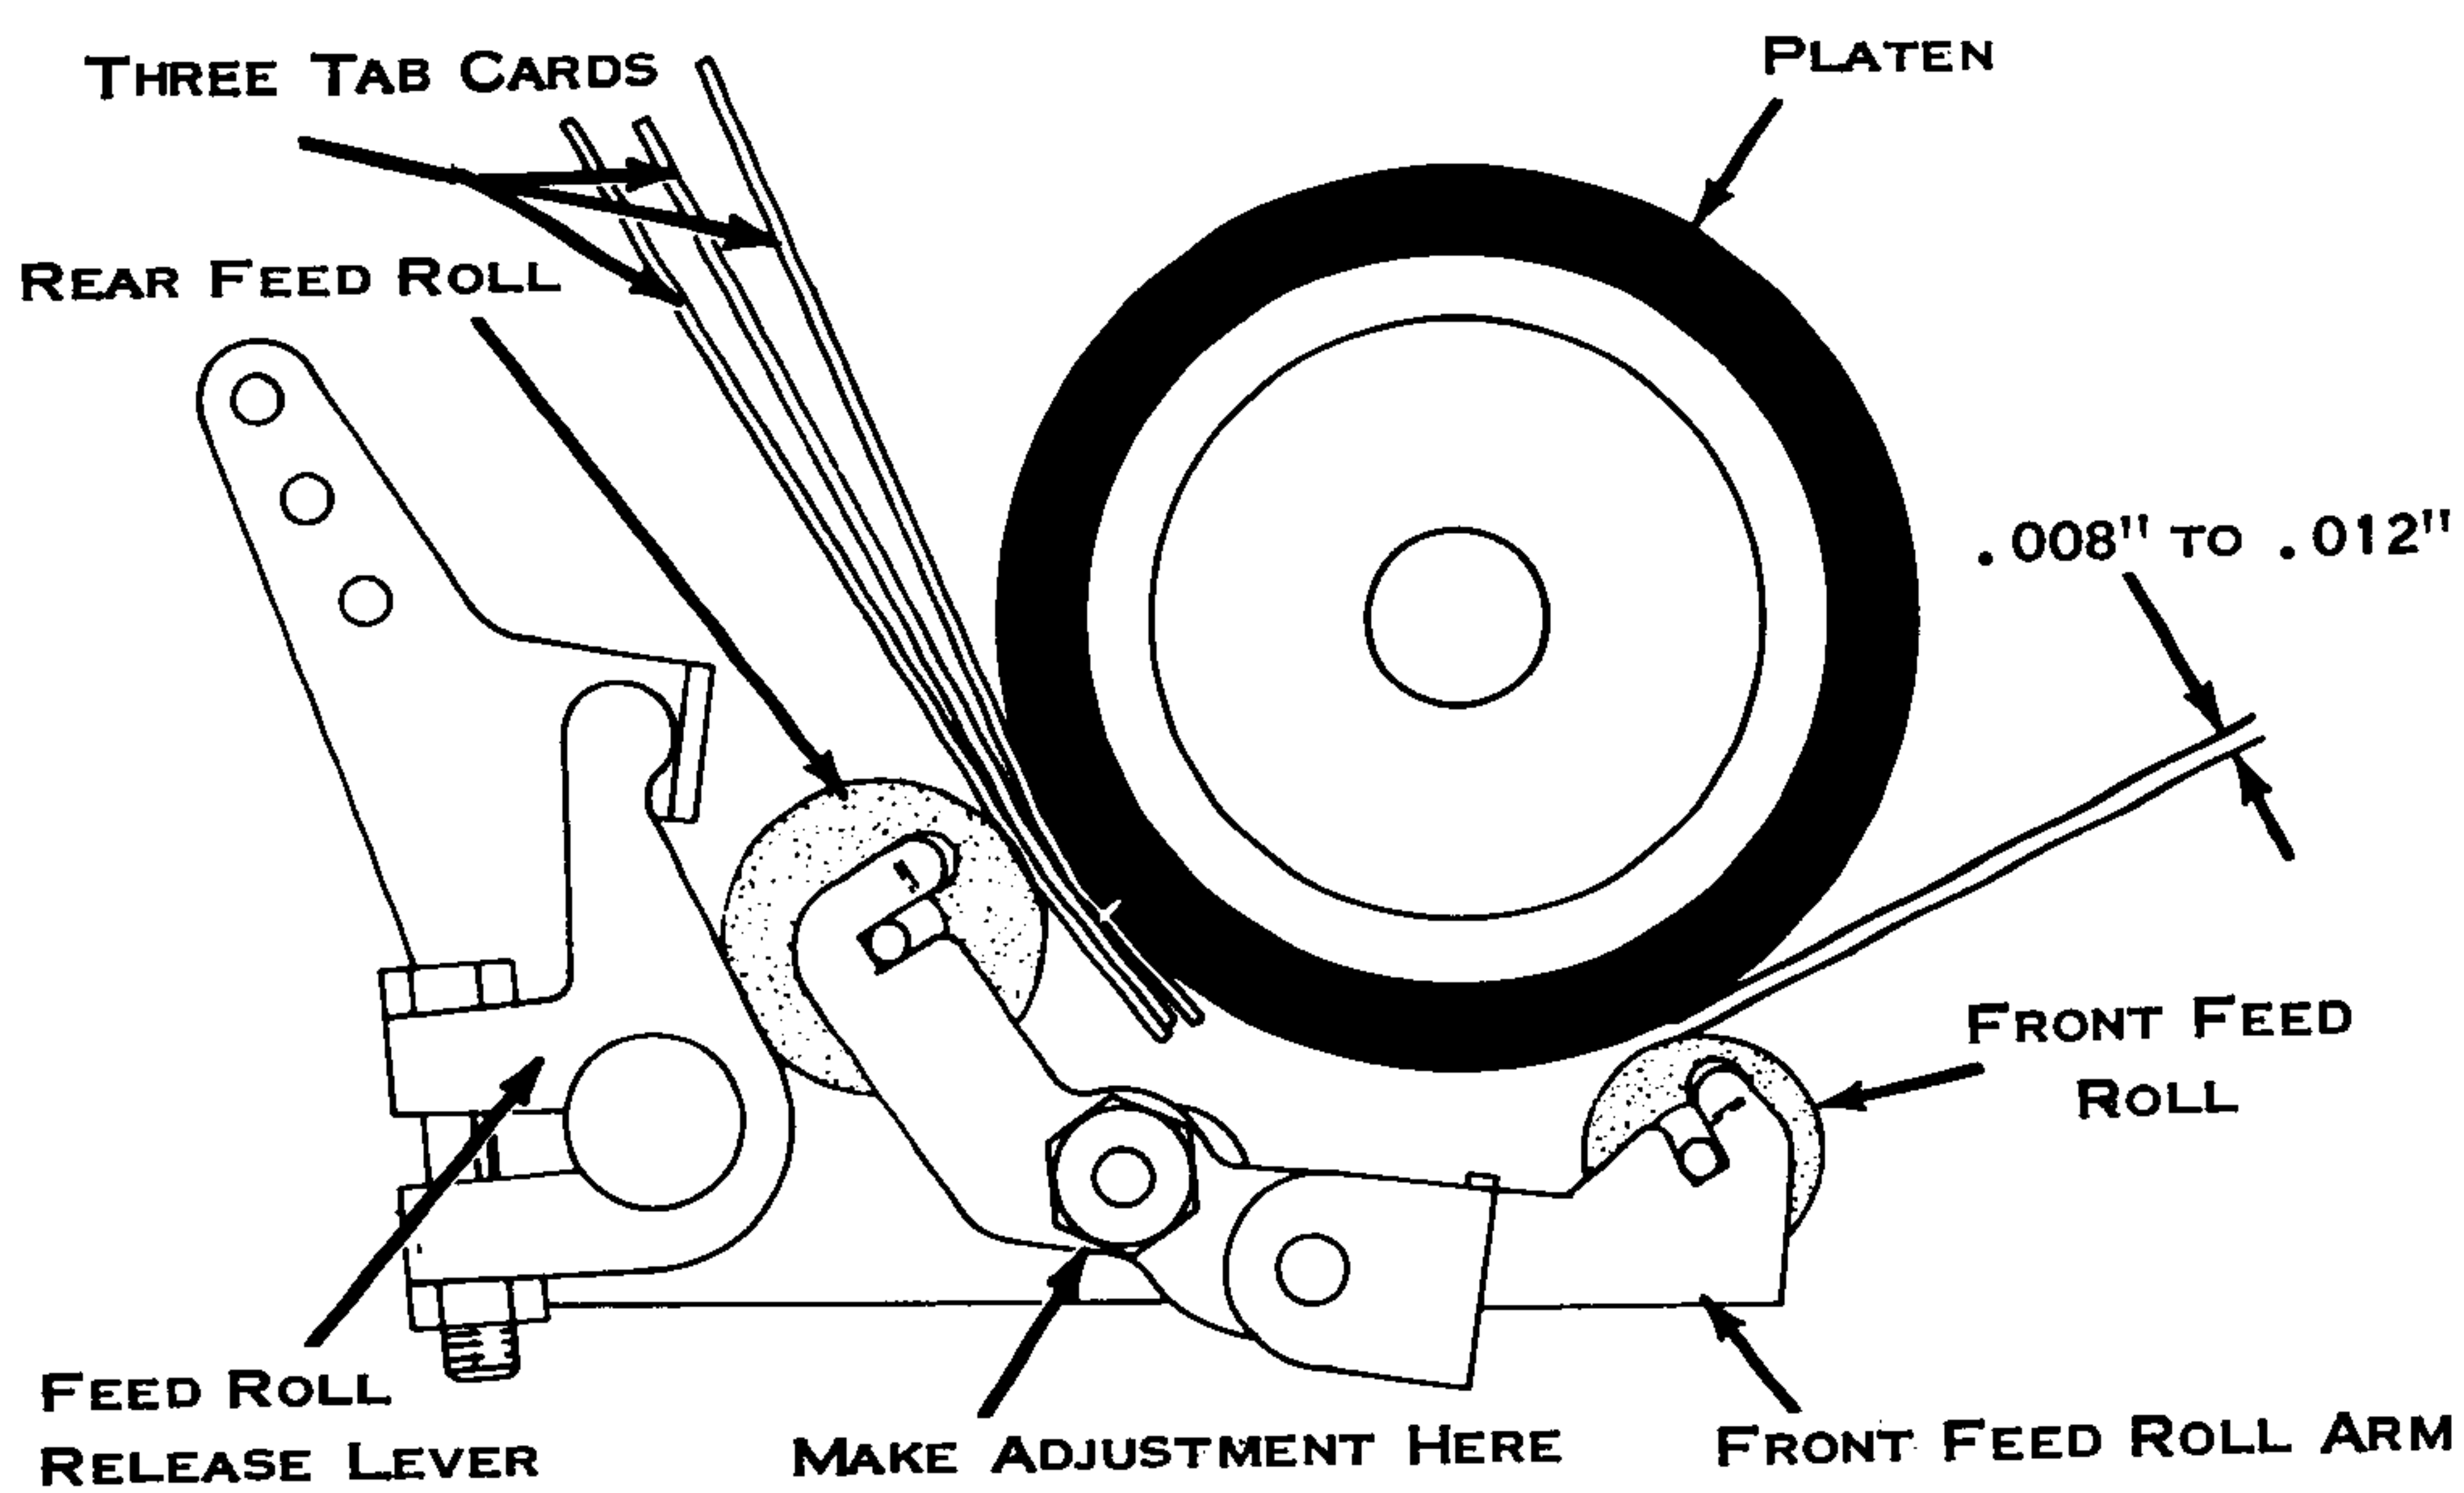

Figure 199. Feed Roll Adjusting Eccentrics (Old Style)
- b. Feed Roll Adjusting Eccentrics, Old-Style (Fig. 199) - The eccentrics (high point to the rear) should be adjusted so that three data cards inserted between the platen and the rear feed roll will cause a clearance of .008" to .012" between the front feed roll and the platen. Clearance should be equal (within .002") on both ends.